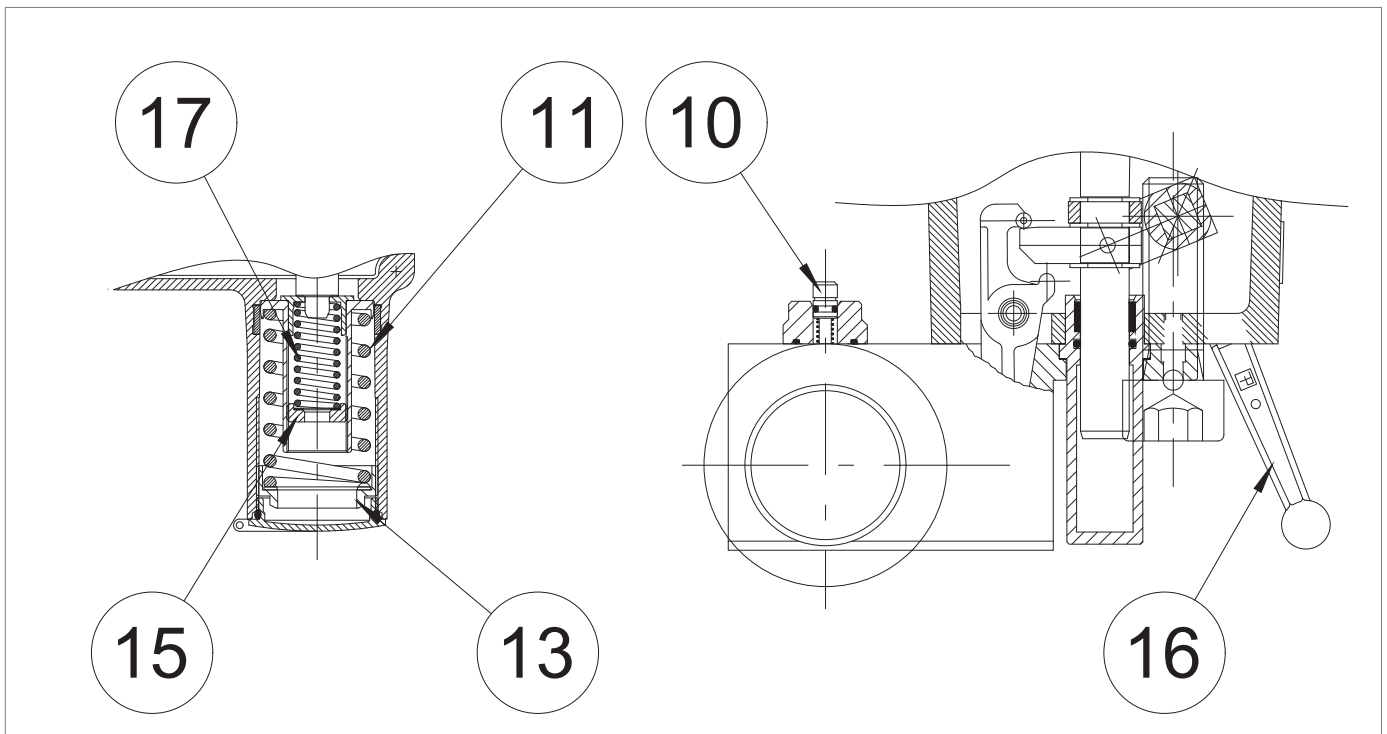

Fig. 8.33. Pressure switches calibration Mod. 100
2	Check that the built-in slam-shut valve is in the closed position. NOTICE! If the incorporated slam-shut valve is in the open position, close it using the manual button (Fig. 8.33, ref. 10).
2	<p>Check that the slam-shut valve is in the shut-off position.</p> <p>! NOTICE! If the slam-shut valve is in the open position, close it using the manual button (Fig. 8.33, ref. 10).</p>